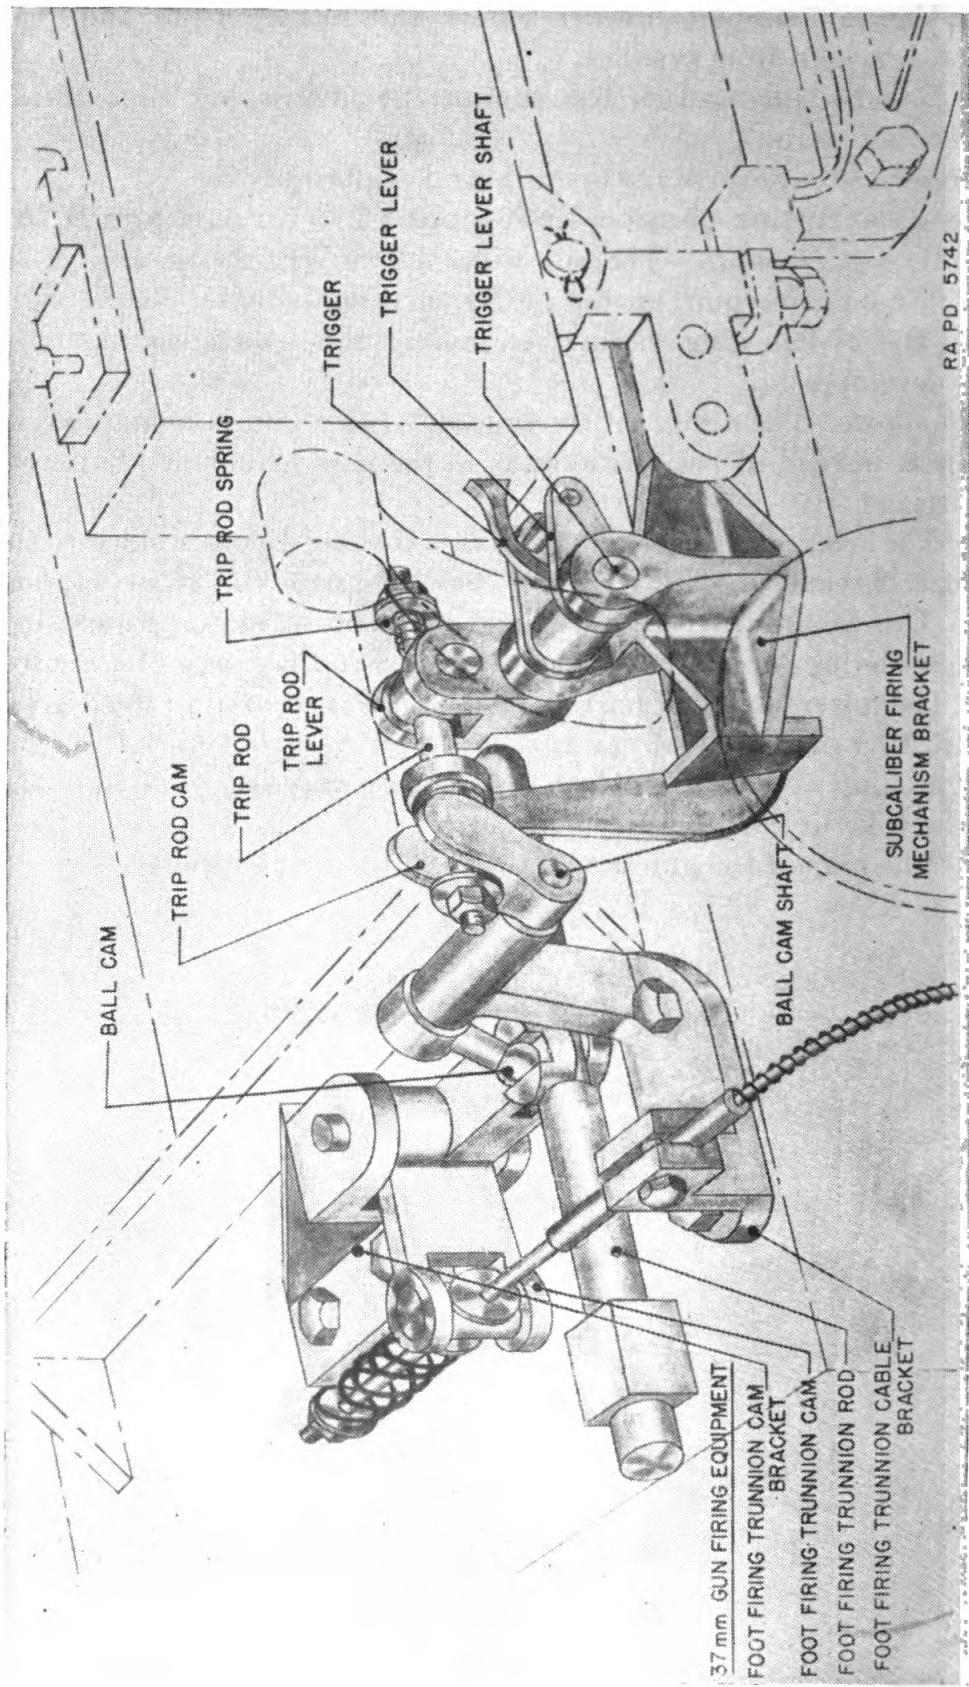

FIGURE 134.—Subcaliber firing mechanism, mount T10, carriage M3A1.
(2) Unscrew support bracket screws and remove front and rear support brackets from cradle.
(3) Remove ammunition box support by unscrewing ammunition chest support screws.
**151. Description of subcaliber mount T10 for carriage M3A1 (fig. 134).**—*a. General.*—The subcaliber mount T10, for the caliber .30 subcaliber machine gun, on the M3A1 carriage is bolted to the right side of the 37-mm gun cradle. At present this subcaliber mount is under development.
(1) The front end of the gun rests in a U-shaped yoke welded to the top of a threaded bolt. Together they comprise the front support yoke. This yoke is pivoted to the gun by a bolt or pinion which slips through the lugs on the gun and the bracket and is secured by a cotter pin. The lower threaded portion of the yoke is secured to the bracket by adjusting nuts. These can raise or lower the front end of the gun by tightening or loosening them, as the case may be. The nuts also lock the yoke in the bracket.
(2) The rear of the gun is supported by the rear support.